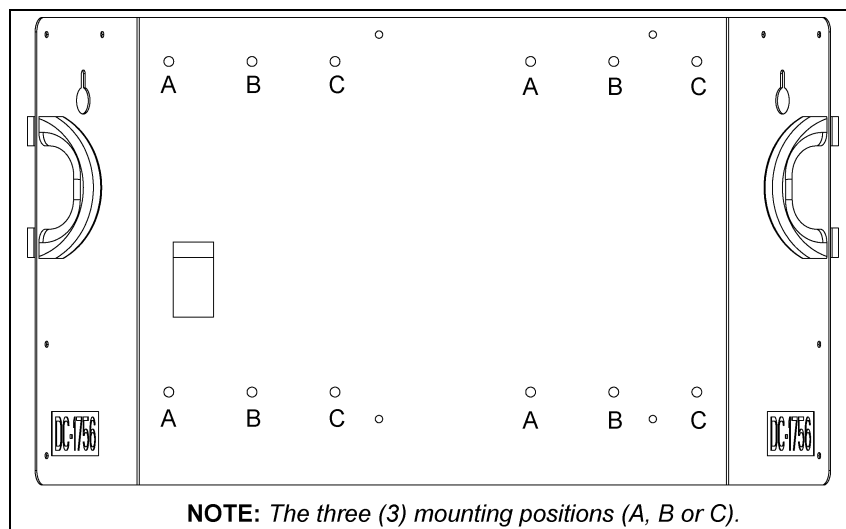

Figure 5C
Open the control panel and mount it to the lift base panel assembly with the supplied hardware. There are three (3) mounting positions on the lift base panel assembly in which to mount the control panel. \(See Figure 5C.\)